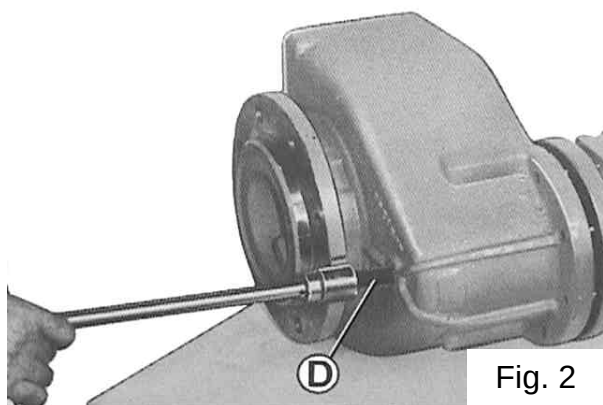

Fig. 2
- split the complete final drive from the hub, working with screw **D** of fig. 2 on the internal axle shaft;
As illustrated in fig. 2, make sure that the ring fits into the housing before relieving the pressure exercised by the press (part A of fig. 1).